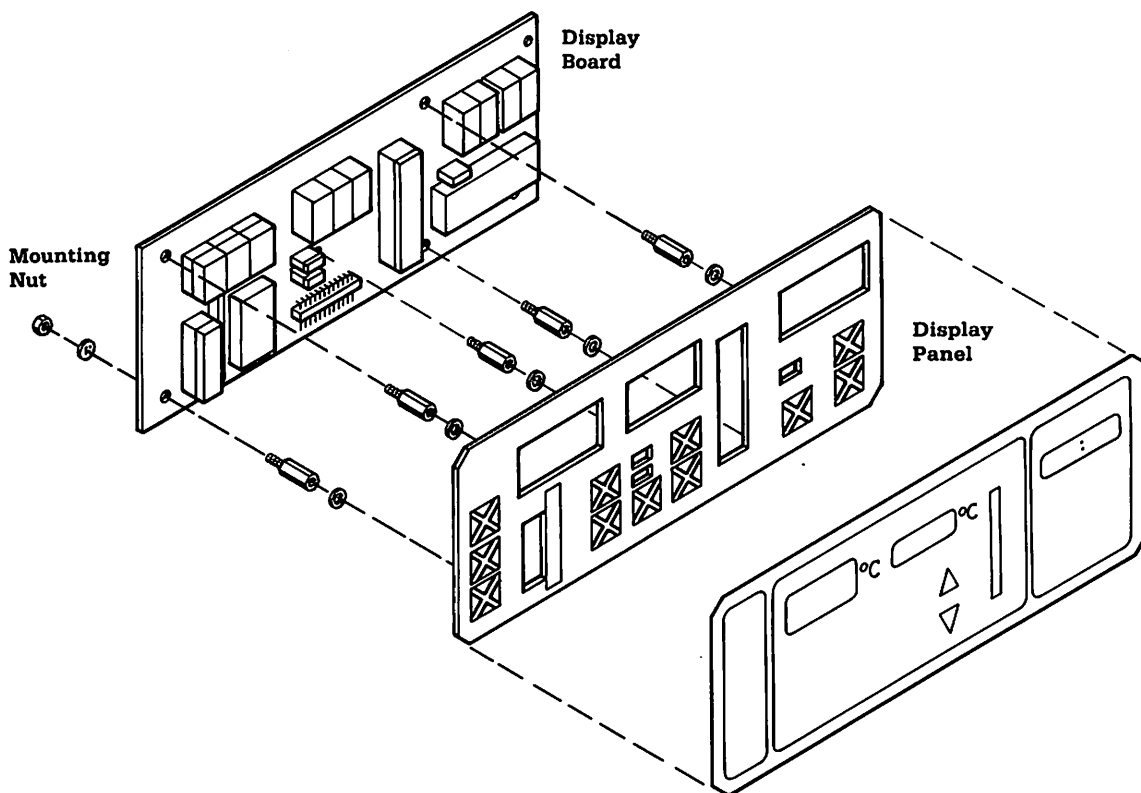

Figure 5-9. Display Board Assembly
7. Remove the 5 mounting nuts with lock washers and the one ground wire from the display board. See Figure 5-9.